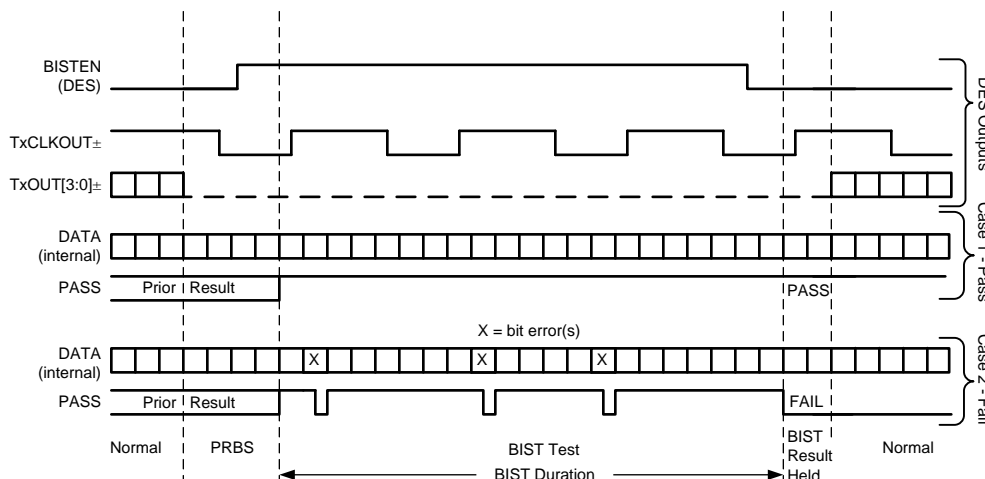

Figure 19. BIST Waveforms, in Conjunction with Deserializer Signals
Step 4: The link returns to normal operation after the deserializer BISTEN pin is low. Figure 19 shows the waveform diagram of a typical BIST test for two cases. Case 1 is error free, and Case 2 shows one with multiple errors. In most cases it is difficult to generate errors due to the robustness of the link (differential data transmission etc.), thus they may be introduced by greatly extending the cable length, faulting the interconnect medium, or reducing signal condition enhancements (Rx Equalization).